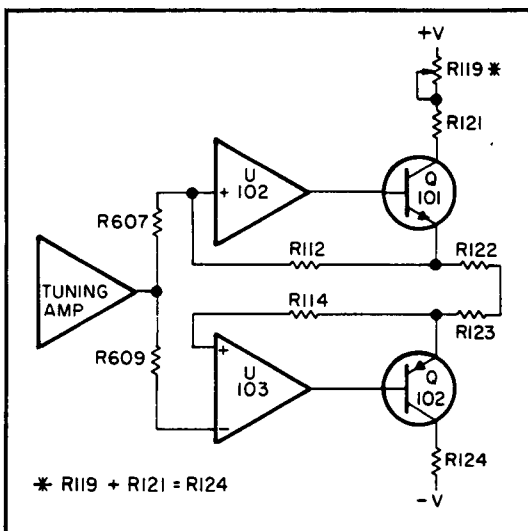

Figure 4-2. Calibrated Symmetry.
**4-18. Symmetry Switch and Vernier.** The front panel Symmetry Switch operates in two modes. With the front panel control in the CAL position (Figure 4-2) the output of the Tuning Amplifier is connected, through two nominal 5 kΩ resistors, to the non-inverting input of U102 and the inverting input of U103. Because the gain of U102 is equal to that of U103, the magnitude of the voltage at the emitters of Q101 and Q102 is equal, but due to the inversion of U103, the emitter of Q101 is positive with